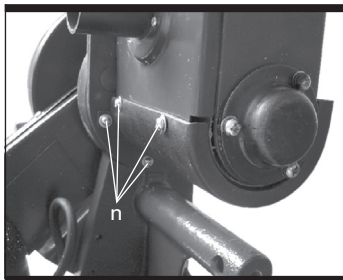

Fig 19-3
- 3) Loosen and remove the four screws under the upper sanding drum guard (n). (Fig 19-3)